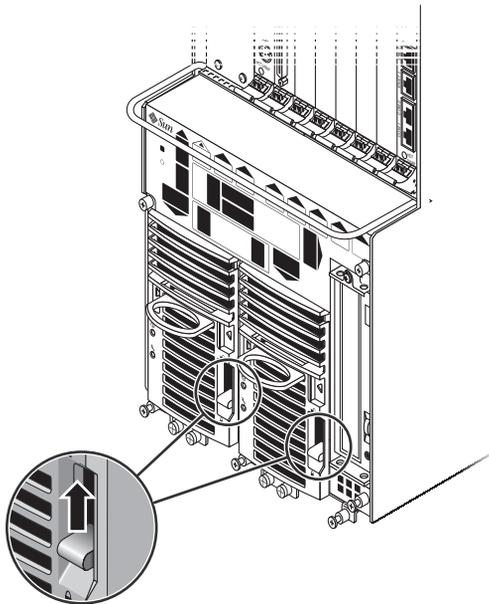

FIGURE 7-1 Locating the Power Supply Locking Mechanism on the Netra CT 810 Server
1. Verify that the power supply locking mechanism(s) on the server you are about to power on are in the locked (), or down, positions (FIGURE 7-1).
7. If you want to completely power off the Netra CT server, push the purple power supply unit locking mechanism(s) up into the unlocked (⏏) position (see FIGURE 7-1).
6. **If you want to completely power off the Netra CT server, push the purple power supply unit locking mechanism(s) up into the unlocked (⏏) position (see FIGURE 7-1).**